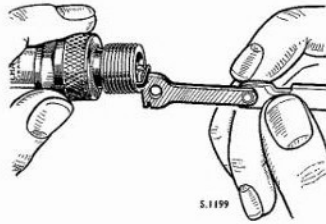

Fig. N.39. Setting the sparking plug gap
Normal Condition. Examine the sparking plugs for powdery deposits, ranging from brown to greyish tan. Electrodes may be slightly worn. These are signs of sparking plugs used under normal conditions of mixed high speed and low speed driving. Cleaning and gap re-setting on these sparking plugs is all that is required (see Fig. N.39). White to yellowish powdery deposits usually indicate long periods of constant speed service. These deposits have no effect on performance if the sparking plugs are cleaned thoroughly at 3,000 mile (4,500 km.) intervals.
6. The gap between the plug electrodes should be 0.025 in. (0.63 mm.). Check this with a gap gauge and adjust if necessary by bending the side electrode, until the correct setting is obtained (see Fig. N.39). **On no account must the adjustment be carried out by bending the centre electrode** as this may split the lower part of the insulator.